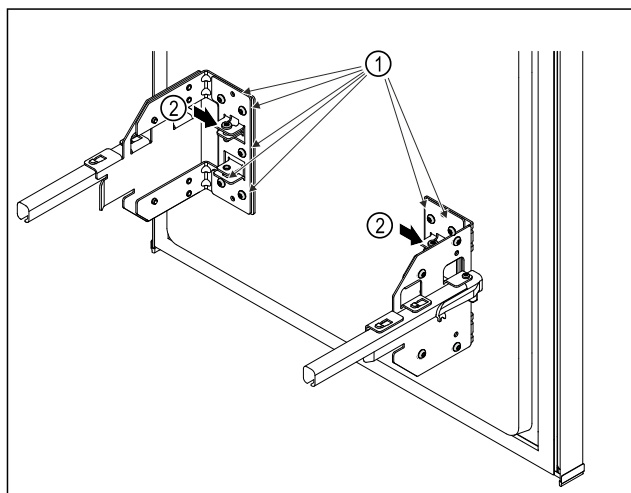

Fig. 8
- Slightly loosen the Fig. 8 (1) screws.
- Turn the screws to slide the Fig. 8 (2) pull-out cart up or down.
- Tighten the screws Fig. 8 (1) as far as they will go.